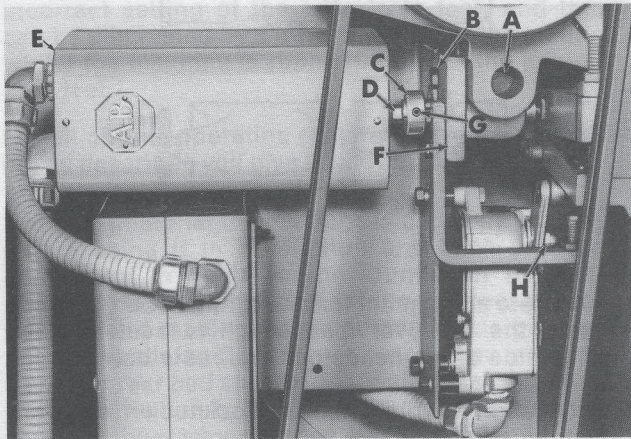
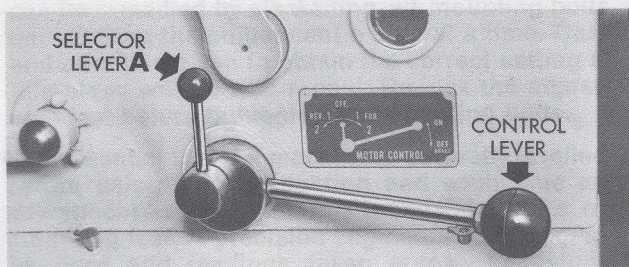

Figure 1
Figure 3
1. Before installing switch panel assembly turn the reversing switch shaft (D, fig. 1) clockwise as far as it will go, and then back two "clicks" — the switch is now in the off position.
3. Slide drum switch shaft (D, fig. 1) with switch panel into coupling (C), then align mounting bar (A) with holes in mounting plate (F) and secure in place with two 5/16-18 x 1-3/4 hex cap screws (B). DO NOT TIGHTEN SECURELY.
4. Make sure selector lever (A, fig. 3) rotates freely. If binding condition occurs, loosen mounting screws (B, fig. 1) and realign, then tighten screws securely.
**IMPORTANT:** Be sure set screw (G) is at 90° to slots in coupling.
12. If spindle rotation does not correspond to selector switch notation, interchange any two line leads. If the motor does not start when the control lever is in the "up" or "on" position, or stop in the "down" position, adjust the travel of the limit switch arm on the switch lever by loosening the adjusting nut (H, fig. 1). If the brake lever at the rear of the headstock jams on the threaded end of the brake link, adjust set screw in the bracket on the switch panel to limit travel of the switch lever.